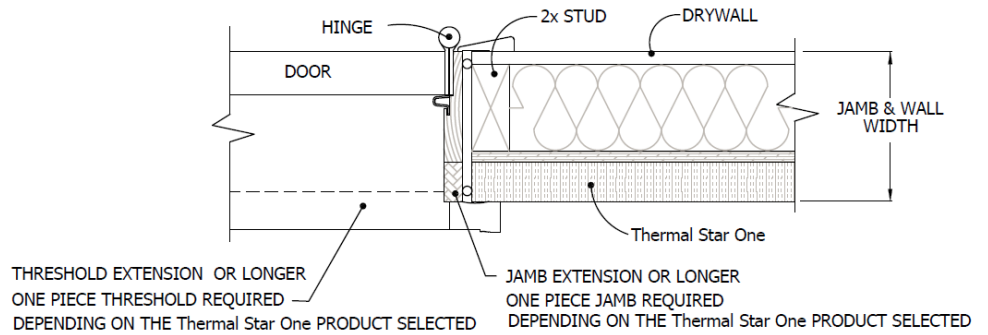

Figure 5:
8. Provide additional support under threshold as required depending on ThermalStar One product selected (see figure 5).